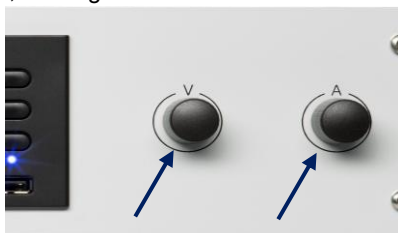

Figure 6.2: Encoders for voltage and current settings
- The encoders are also used for scrolling through the menu, see Figure 6.2.